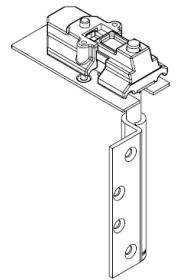
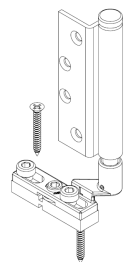
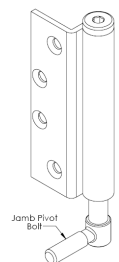

Figure 20:
Figure 21:
Figure 22:
1. **Pivot Panel:** The pivot panel is the panel installed at the jamb and has fixed anchor points attached at the Head (Figure 20), Sill (Figure 21) and Jamb (Figure 22). Before installing the Pivot Panel, remove the Jamb Pivot Bolt from the center hinge and set aside (Figure 22).